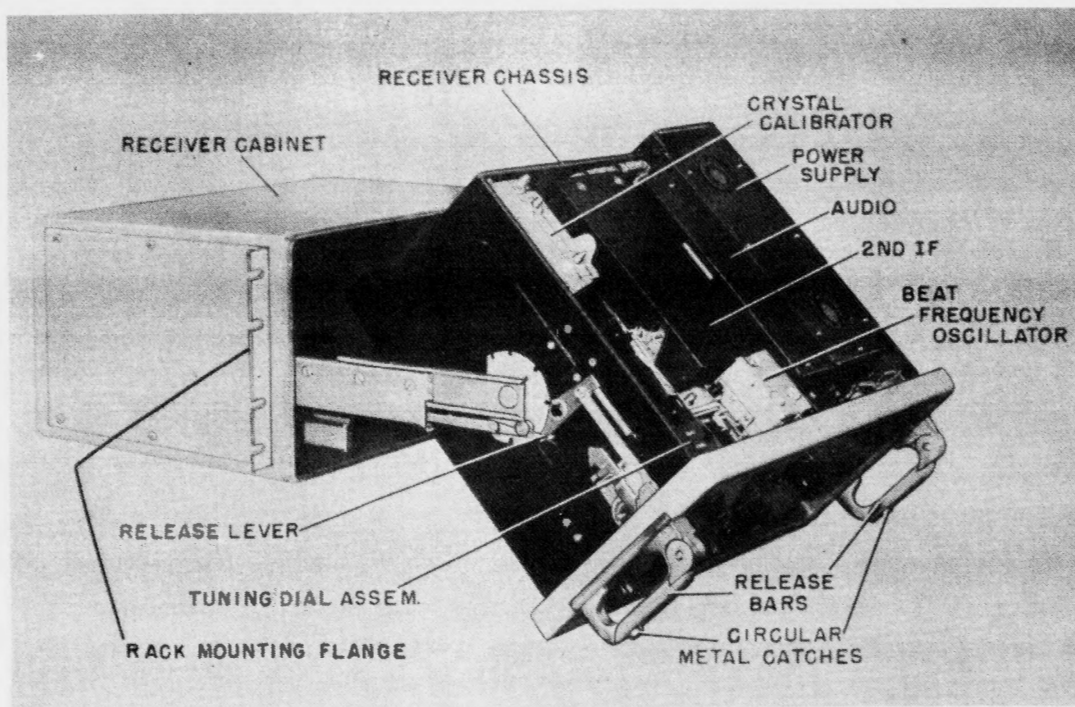

Figure 3-8. Chassis in Service Position, Top View
(1) **SERVICING POSITION.** - Extend the chassis of the receiver to the servicing position, as shown in figure 3-8 or 3-9, by lifting the circular metal catches located toward
The two test cables mounted in the back of the cabinet are supplied to permit operation of a receiver or the Comparator Keyer while the unit is in servicing position. Test Cable Assembly Type CG-1101/SRR is to be used with either one of the receivers and Test Cable Assembly Type CX-3262/U is to be used with the Comparator Keyer. The receivers and the Comparator Keyer are of like construction; their chassis may be extended for test or maintenance operation (see figures 3-8 and 3-9). The Radio Frequency Oscillator is not of this construction.
After extending the receiver to be tested to the servicing position (see figure 3-8 and/or 3-9), connect a Test Cable Assembly Type CG-1101/SRR to receptacle J2214 (see figure 7-2) at the back of the receiver chassis. Then plug the connector at the other end of the test cable to the receptacle on the back wall of the receiver case. In a like manner the Comparator Keyer may be connected using Test Cable Assembly CX-3262/U. When the test cable is connected as described, all circuits of the unit connected are complete and the receiver or Comparator Keyer may be operated in this position for servicing.